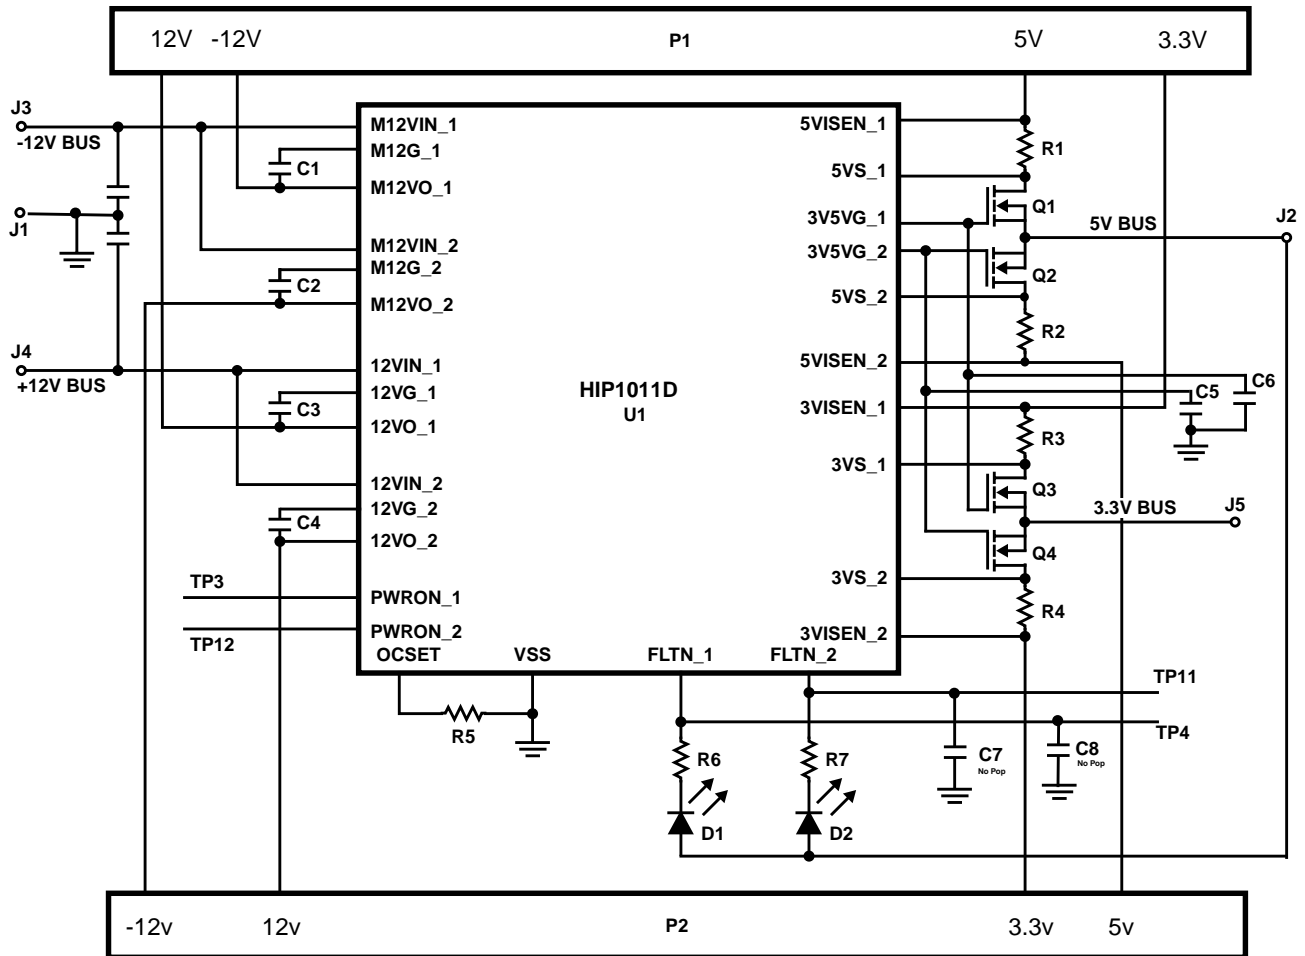

FIGURE 24.
1. For PCI applications, set  $R_{OCSET}$  to 6.04k $\Omega$ , and use 5m $\Omega$  1% sense resistors (see Figure 24).
The HIP1011DEVAL1 platform (Figure 24) comes as a three part set consisting of 1 mother board emulator and 2 load cards. This evaluation platform allows a designer to evaluate and modify the performance and functionality of the HIP1011D in a simple environment.